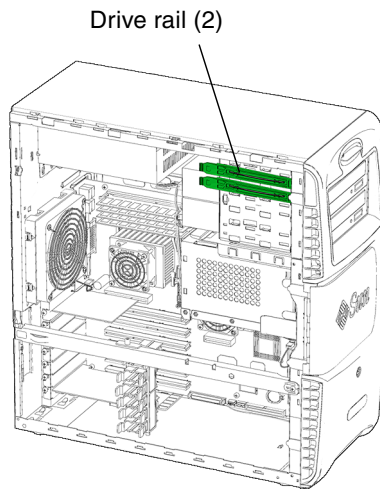

FIGURE 13-51 Location of Drive Rails
2. Locate the drive rails (FIGURE 13-51).